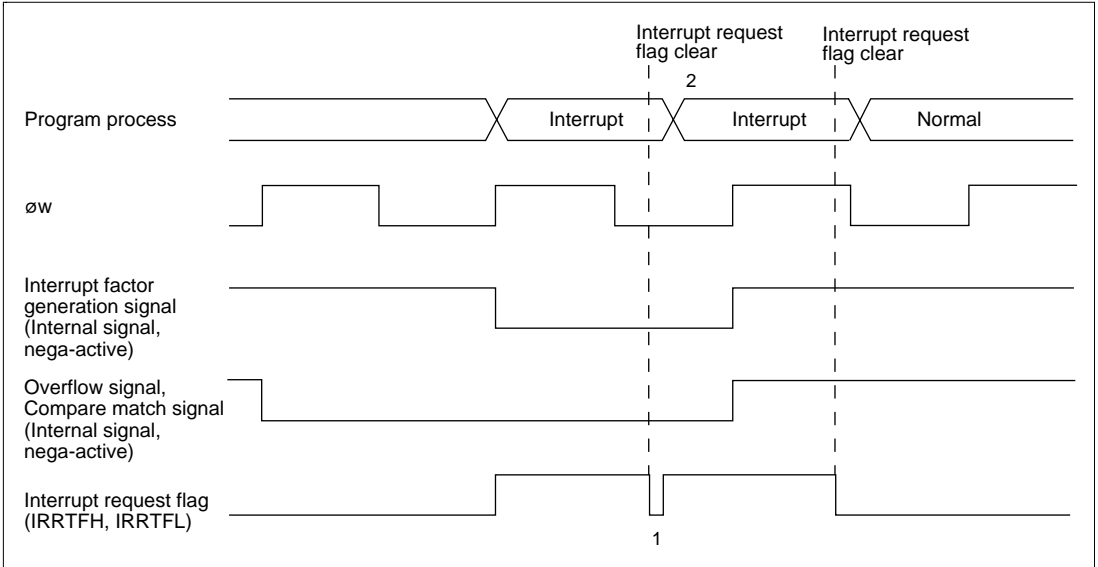

Figure 9-7 Clear Interrupt Request Flag when Interrupt Factor Generation Signal is Valid
When $\phi_w/4$ is selected as the internal clock, “Interrupt factor generation signal” will be operated with ϕ_w and the signal will be outputted with ϕ_w width. And, “Overflow signal” and “Compare match signal” are controlled with 2 cycles of ϕ_w signals. Those signals are outputted with 2 cycles width of ϕ_w (figure 9-7)
In active (high-speed, medium-speed) mode, even if you cleared interrupt request flag during the term of validity of “Interrupt factor generation signal”, same interrupt request flag is set. (figure 9-7 1) And, you cannot be cleared timer overflow flag and compare match flag during the term of validity of “Overflow signal” and “Compare match signal”.
For interrupt request flag is set right after interrupt request is cleared, interrupt process to one time timer FH, timer FL interrupt might be repeated. (figure 9-7 2) Therefore, to definitely clear interrupt request flag in active (high-speed, medium-speed) mode, clear should be processed after the time that calculated with below (1) formula. And, to definitely clear timer overflow flag and compare match flag, clear should be processed after read timer control status register F (TCSR F) after the time that calculated with below (1) formula. For ST of (1) formula, please substitute the longest number of execution states in used instruction. (10 states of RTE instruction when MULXU, DIVXU instruction is not used, 14 states when MULXU, DIVXU instruction is used) In subactive mode, there are not limitation for interrupt request flag, timer overflow flag, and compare match flag clear.